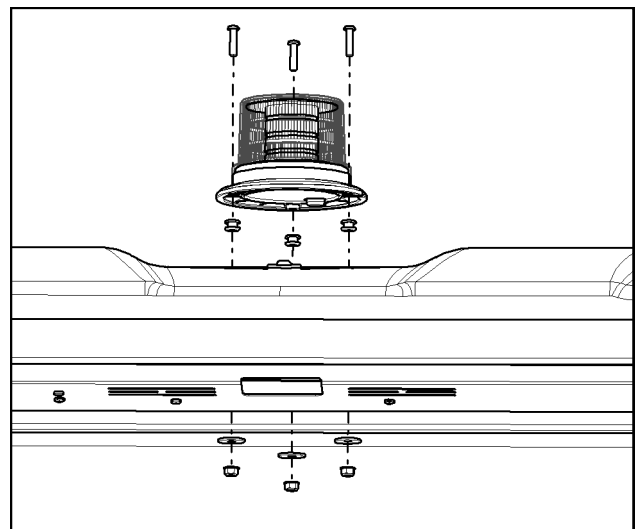

Fig 2.4
- 2.4 Feed the wire from the beacon light into the central of the four holes and secure the light to the roof by feeding 1/4-20 x 1" button head bolts through the light then the rubber grommets in the plastic roof and 1/4" x 1" steel washer and secure using 1/4-20 nylon locknut. Torque bolts to 35±5 in-lbs. See figure 2.4.